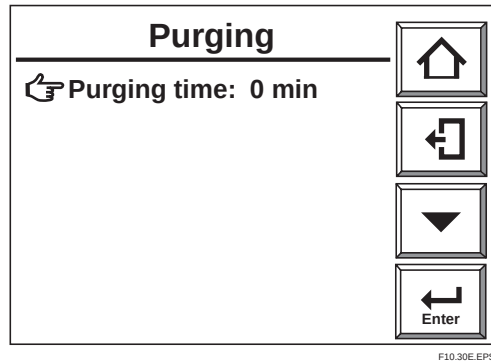

Fig. 10.30 Purging Time Setting
- 3) Select [Others] then [Purging] and a display such as Fig. 10.30 is appears.